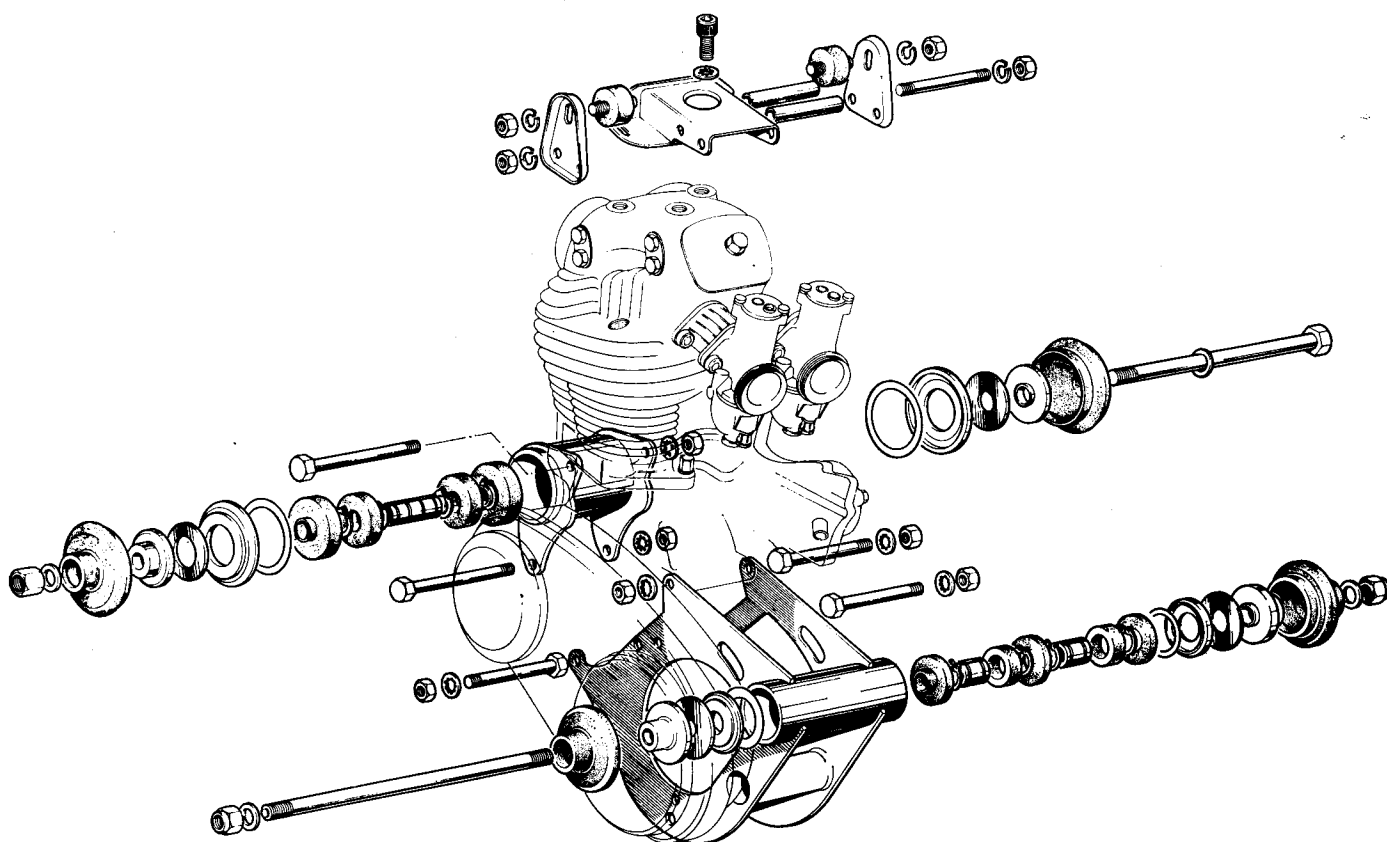

Fig F15 Isolastic mountings exploded view
- 4 Fit the tapered guide body 063971 over the end of the mounting tube as shown in *Fig. F15*.